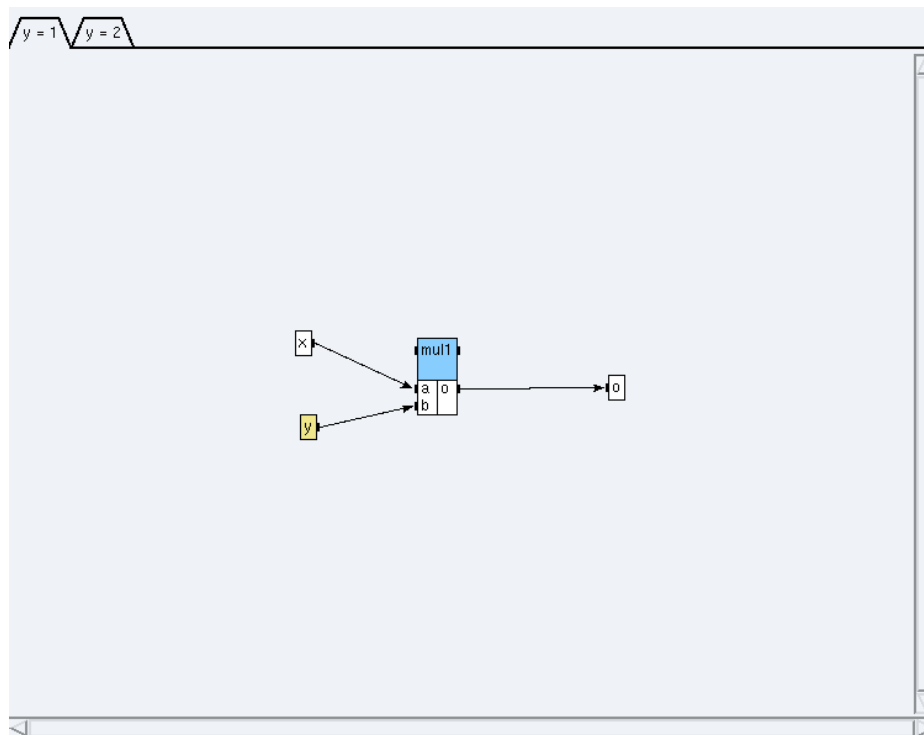

Figure 5.7: Condition $y=1$
- click on the condition $y=1$ (cf. figure 5.7) and create the function `mul1` of the definition **Arit_mul** from int library,